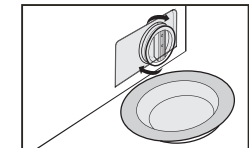

Fig 20
3. Reinstall each part back after sundries matters are removed (Fig20).